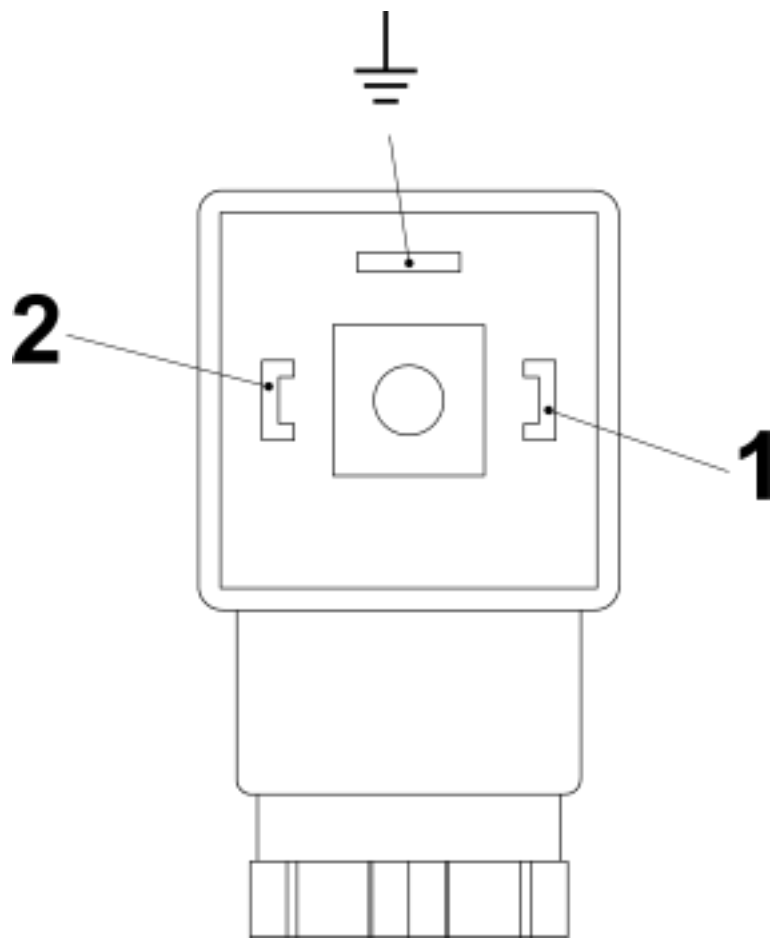
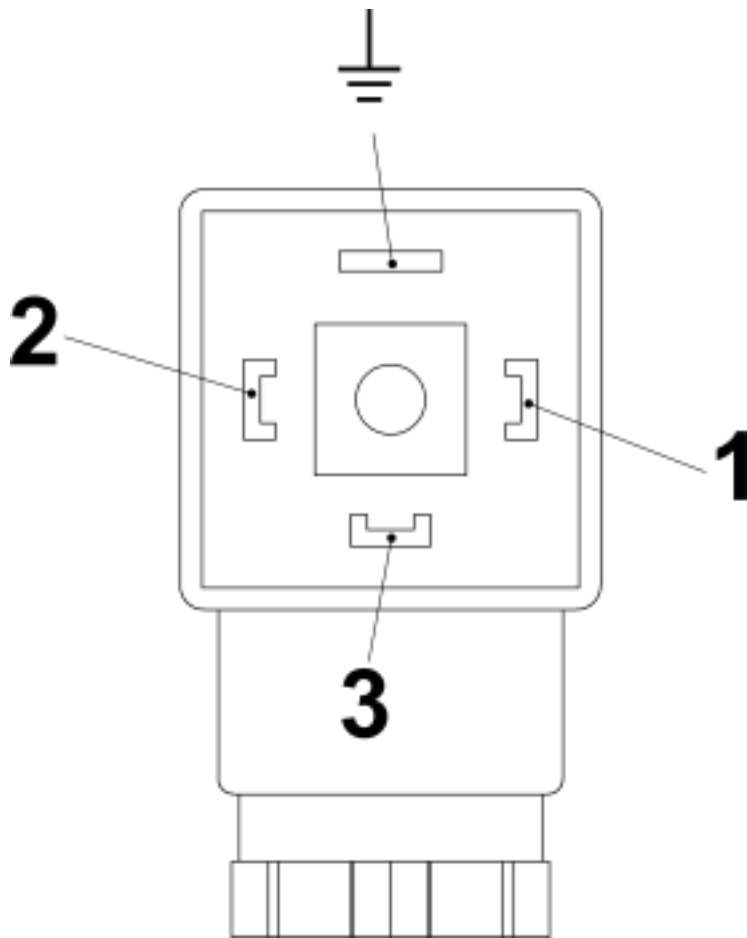

Fig. 31: Pin assignment, plug socket, normally-open contact (SG-30 with connector in compliance with EN175301-803)
Fig. 32: Pin assignment, plug socket, change-over contact (SG-30 with connector in compliance with EN175301-803)
6. ➤ Make the connections as shown in the connecting diagram (*Fig. 31* and *Fig. 32*)